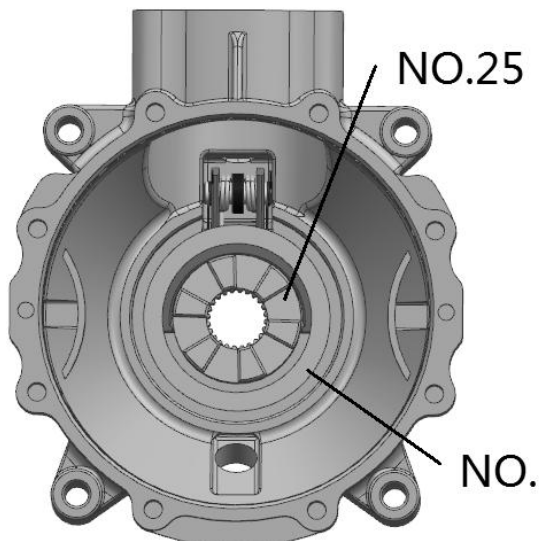

Fig 16
7.Install the clutch gear (NO.25) and the original shims into the gearcase.→Fig 16